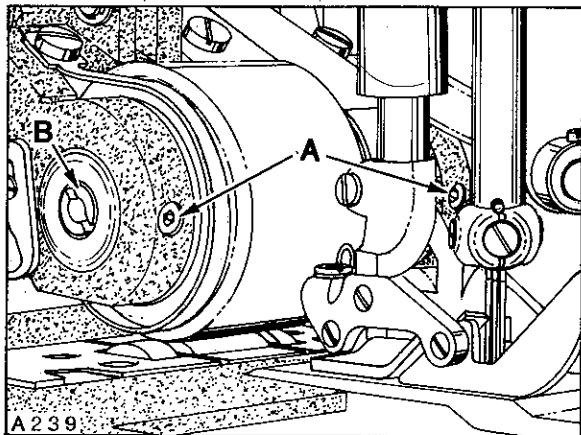

Fig.33
belt guard. It may be necessary to reposition sprockets (B and C) slightly (left and right). Pull down firmly on puller assembly, making sure puller roller is setting evenly on lower roller and tighten two screws (A) securely. The roller puller belt which is located under hinged belt guard (D) should have 1/8 inch (3.2mm) deflection when pressing firmly between drive shaft sprocket and drive sprocket. If adjustment is required loosen two allen screws (A, Fig. 33) and turn eccentric shaft (B) slightly to apply tension on belt. Turning shaft clockwise tightens belt, counterclockwise acts the reverse. CAUTION: Care must be taken not to disturb eccentric shaft (left or right). Tighten two screws (A) securely.